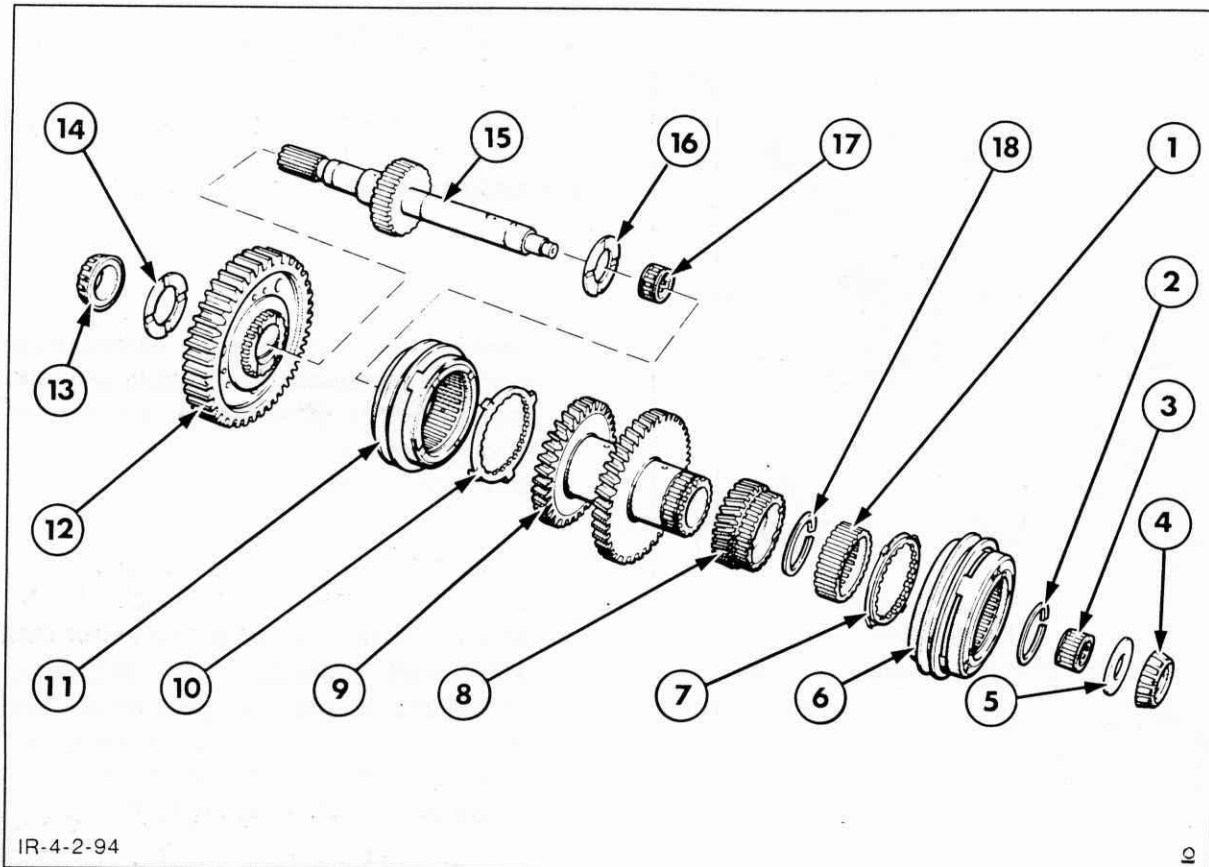

Figure 4-189
1. Thoroughly clean the output shaft components, Figure 4-189, with a suitable solvent, then blow dry with compressed air. Do not spin the bearings with compressed air.
Refer to Figure 4-189.